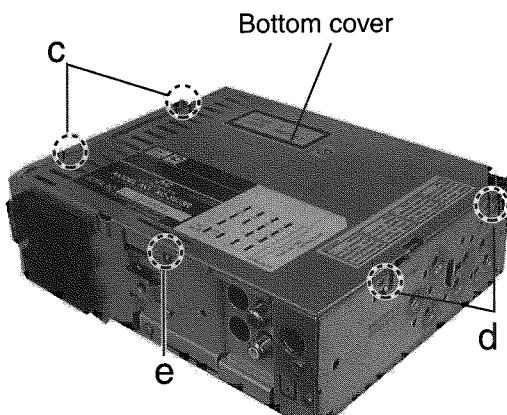

Fig.4
■ Removing the bottom cover (See Fig.4)
- The bottom cover (Refer to Fig.4)